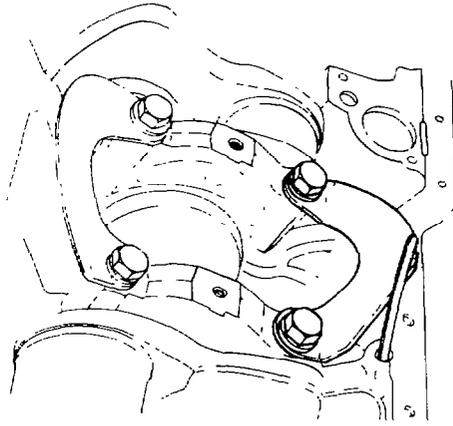

Fig. 66 — Main Bearing Caps — Tie Plates
- l. Position the tie-plate on the main caps (see fig. 66) then install and torque the retaining bolts to 270 Nm (200 lb.ft).